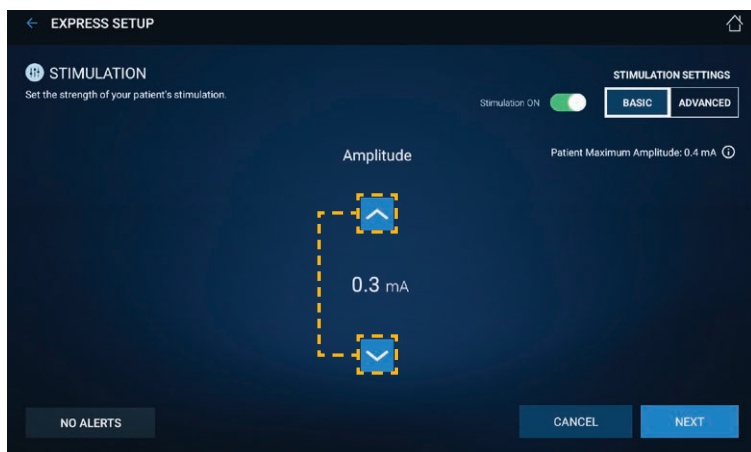

Figure 13. Express Setup: Basic Stimulation screen
- Use the arrow buttons to set the amplitude (Figure 13). Tap the arrow buttons to adjust the amplitude by 0.1 mA; press and hold the arrow buttons to adjust the amplitude by 1.0 mA.